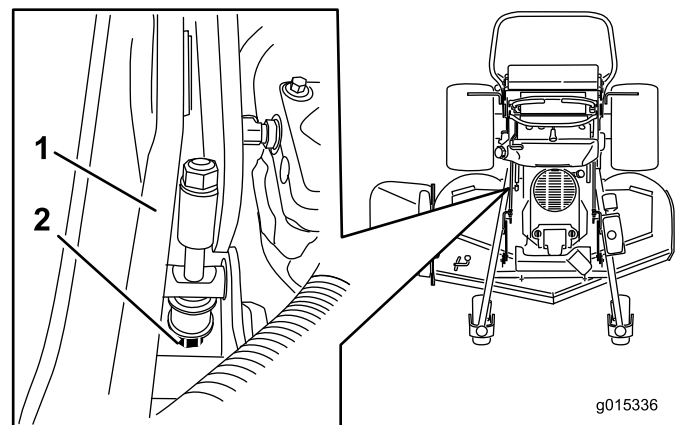

Figure 93
5. If it does not measure correctly, locate the height-of-cut rod on the right side of the machine (Figure 93).
6. Adjust the adjustment bolt until the blade tips match 3 inches (7.6 cm) (Figure 93).